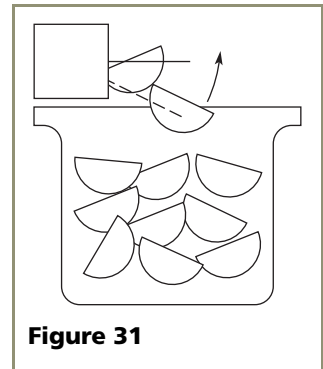

Figure 31
- The ice maker will continue to produce until the bin is full. You may interrupt production by raising the bin arm into an upright and locked position (see **Figure 31**). While the bin arm is locked, the unit will maintain temperature for ice storage.